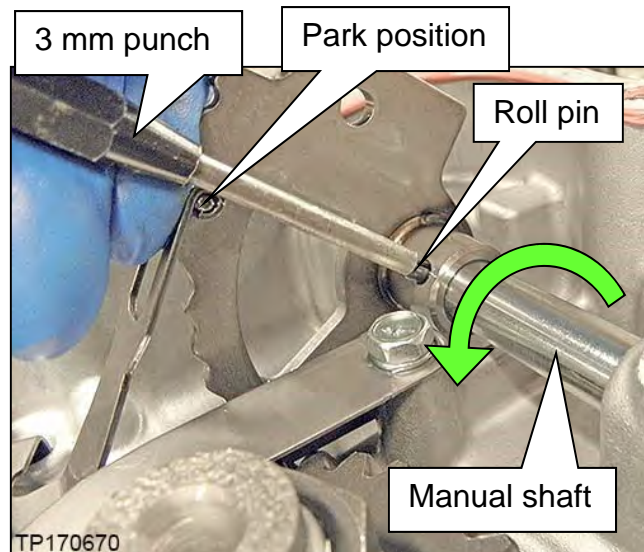
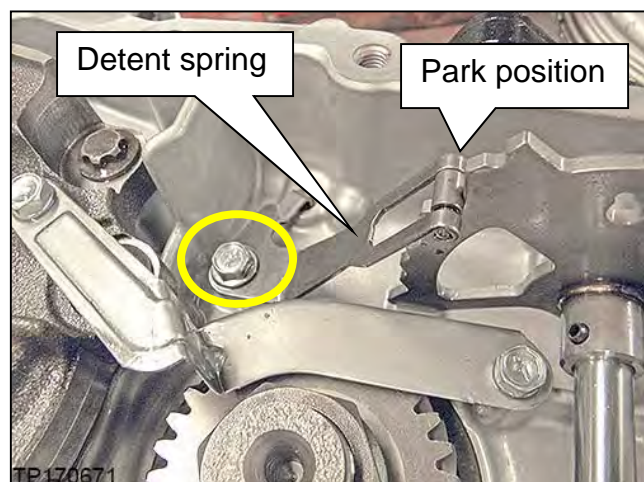

Figure 86
Figure 87
64. Rotate the manual shaft (Figure 86) until it stops in the Park position (see Figure 87).
66. Remove the detent spring bolt shown in Figure 87 and then remove the detent spring from the CVT case.